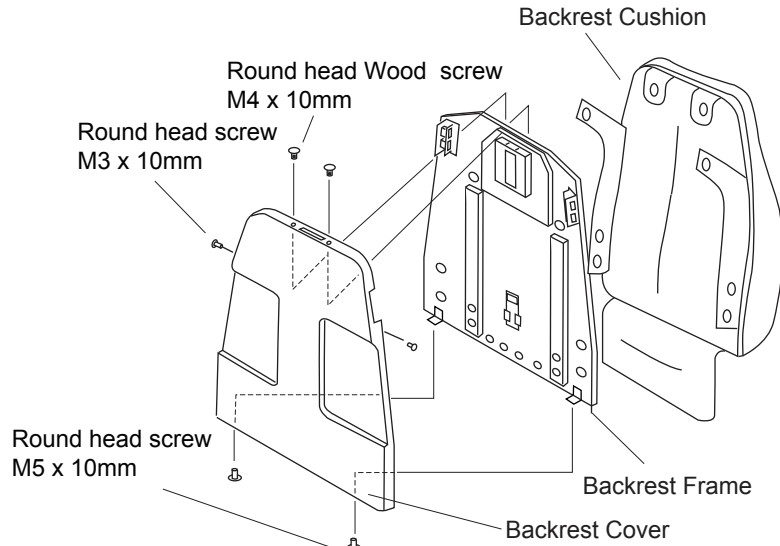

Fig 4-2-4
8) Snap on backrest and seat cushion with snaps provided. Velcro is also used to keep upholstery secure to chair. Reattach backrest cover to backrest frame using 6 screws. See Fig 4-2-4.